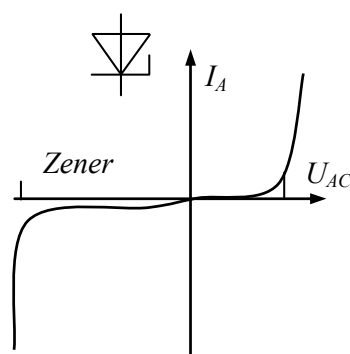

Fig. 1.12
**Zener diode.** A *Zener diode* sometimes called *breakdown diode* or *stabilitrone*, is designed to operate in the reverse breakdown, or Zener, region, beyond the peak inverse voltage rating of normal diodes. This reverse breakdown voltage is called the Zener, or *reference voltage*, which can range between  $-2,4$  V and  $-200$  V (Fig. 1.12). The Zener effect causes a “soft” breakdown whereas the avalanche effect causes a sharper turnover. Both effects are used in the Zener diode. The manufacturer predetermines the Zener and avalanche voltages.